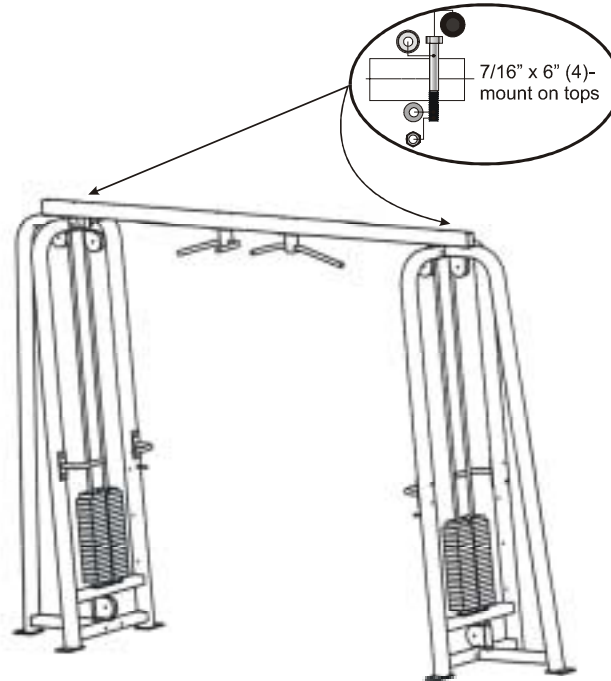

Figure 3. Bolt on the connecting beam.
3. **Bolt on the connecting beam** using a 5/8" socket with extension and combination wrench, to the cells using the four 7/16" x 6" bolts, 7/16" washers, and 7/16" nuts, end cap washers and end caps. Figure 3 shows the connected cells. You may wish to use a pinch bar to align the bolt holes.